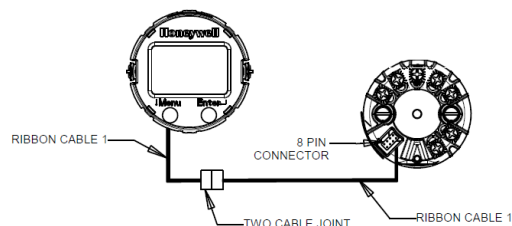

Figure 15: Installation with Standard Display
- If Standard Display is used, wire according to Figure 15.